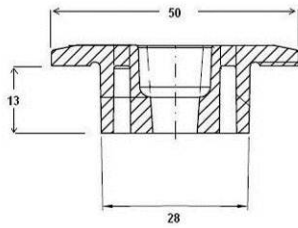

Fig. 4a: cross section of a mounting clamp to be used for attaching the modules to support structure.
- Silfab recommends the use of clamps with a design as shown in Fig. 4a (or equivalent). The use of improper clamps will void the Warranty.